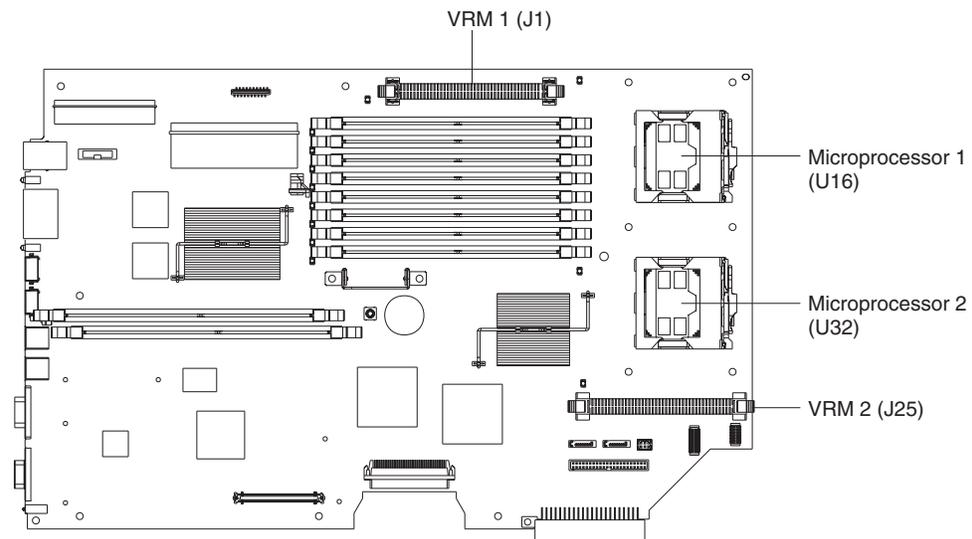

Figure 35. Location of microprocessor and VRM sockets
- Figure 35 shows the microprocessor sockets and the voltage regulator module (VRM) slots on the system board.